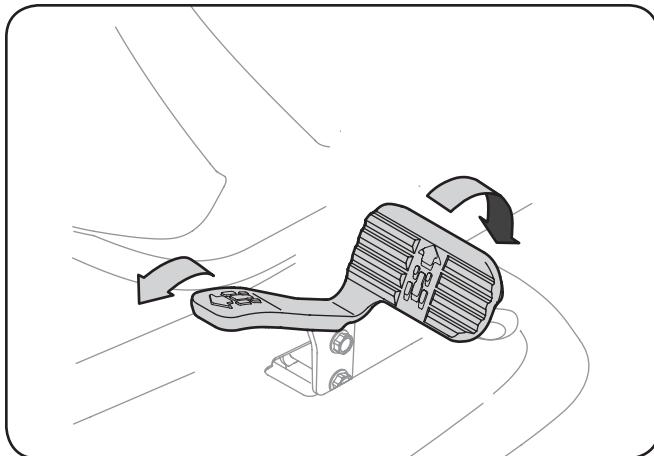

Figure 5-1
2. To travel FORWARD, slowly press the upper portion of the drive pedal forward until the desired speed is achieved. See Fig. 5-1.
To travel in REVERSE, check that the area behind is clear then slowly depress the reverse pedal with the ball of your foot (NOT your heel) until the desired speed is achieved. See Fig. 5-1.